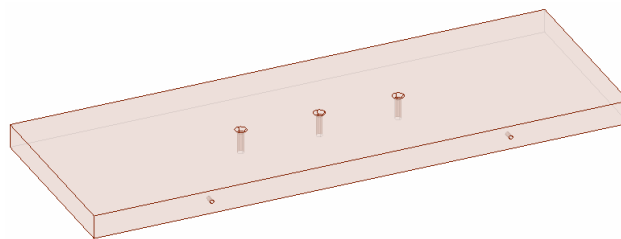

Figure 12. Fence mounting holes completed.
20. Use extrude to extrude the holes. Subtract Material below the workplane 1/4". Figure 12 shows the result.